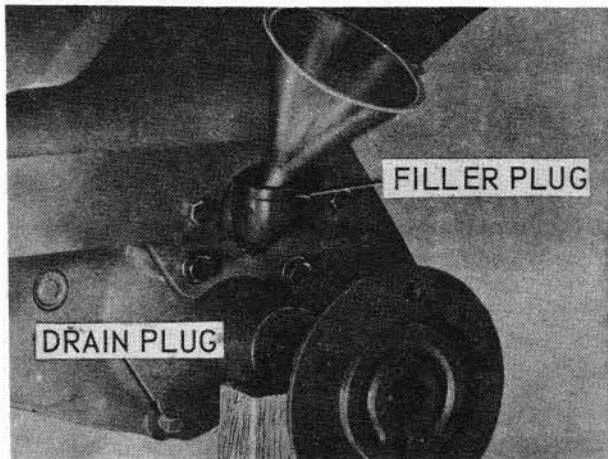

FIG. 9
1. Check oil in transaxle every 50 hours of operation. To check oil level, remove filler plug (Fig. 9), from transaxle. Oil level should be even with this plug.
3. To fill transaxle, use 5 qts. of Allstate S.A.E. 30 motor oil for service MM or MS or equivalent. Fill through filler plug as shown in Fig. 9.